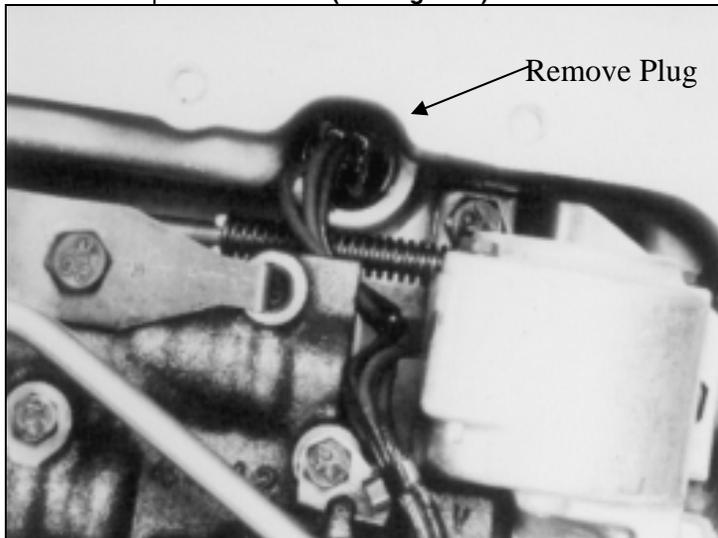

Figure 1
Step 3 Remove internal wiring harness. Carefully disconnect the wire connectors from the switches. Remove the wires from the clips and unplug the wiring harness from the connector near the detent roller spring. Pry connector tab away from the plug and pull the plug down. Do not pull on the wires (**See Figure 1**).